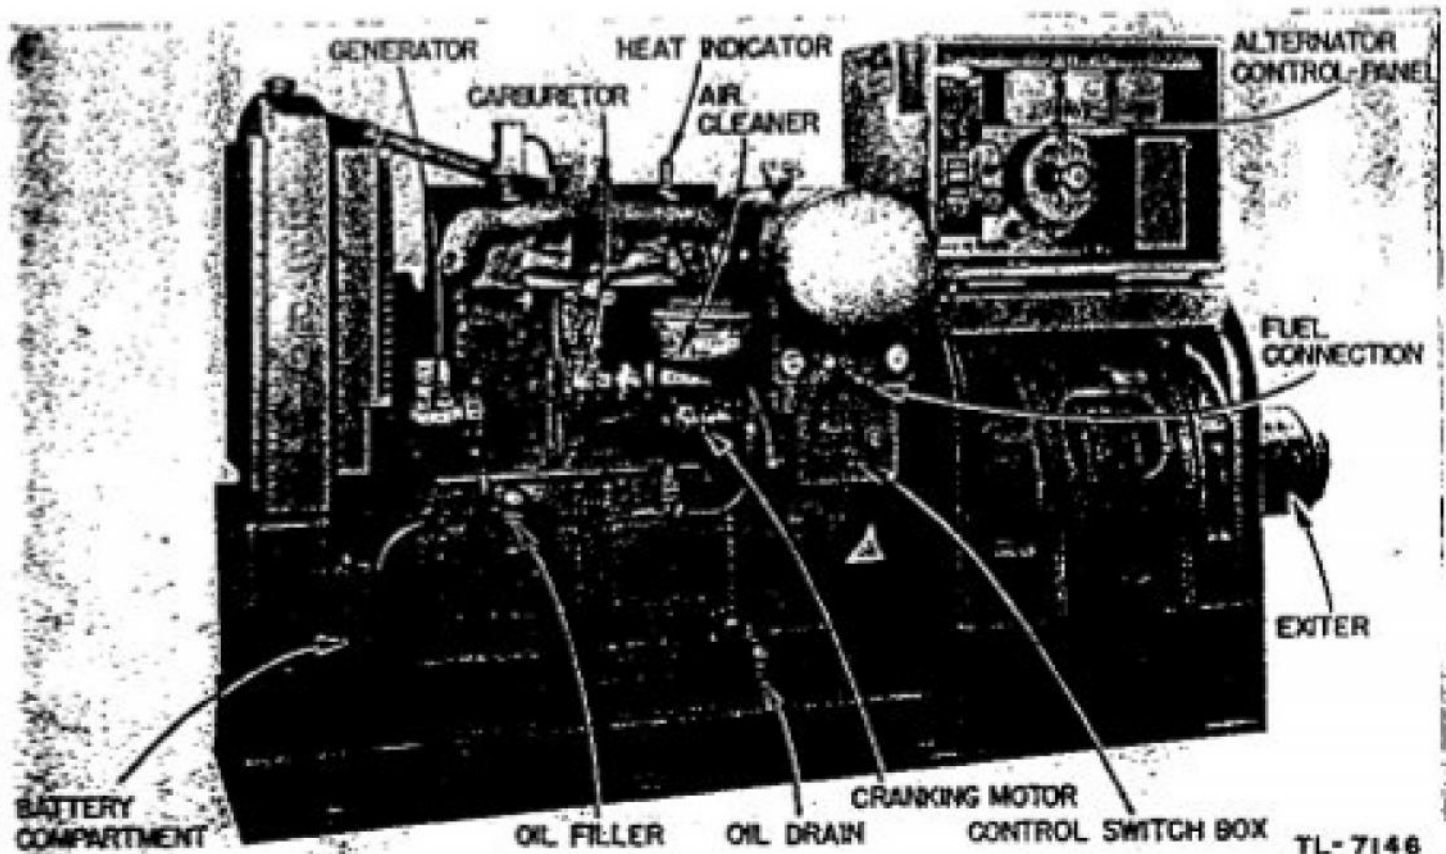

Figure 1. Power Unit PE-84-(*), carburetor side.
a. **POWER UNIT PE-84-(*)**. Power Unit PE-84-(*) is a portable, self-contained, gasoline-electric power plant, consisting of a four-cylinder engine, directly connected through a full-metallic flexible coupling to an alternator (a-c generator). The entire unit, including radiator, engine, generator, and generator-control panel, is mounted on an electrically welded steel subbase. A 15-gallon gasoline tank is mounted over the flywheel housing. (See figs. 1 and 2.) The engine is equipped with a fuel pump for supplying gasoline to the carburetor from either this tank or from drums of gasoline which may be placed alongside the generator set. The valve which connects the tank to the fuel pump is located